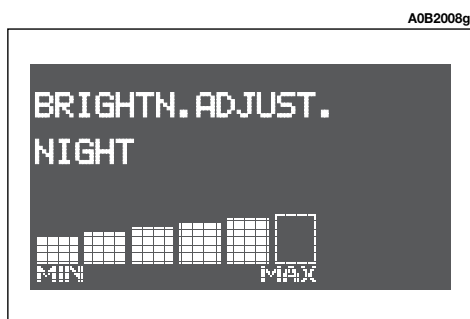

fig. 79
- if the outside lights are on, the message BRIGHTN. ADJUST. NIGHT will appear on the display (**fig. 79**)